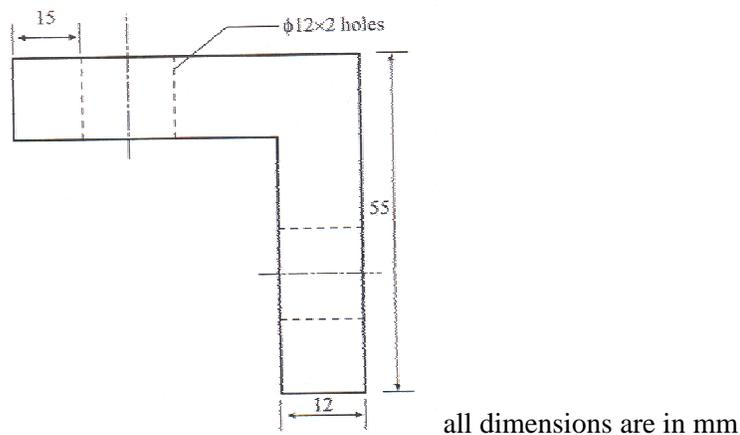

Figure 1
- (b) Design a jig for drilling $\phi 12 \times 2$ number of holes on the work piece shown Fig.1 and also mention the part list